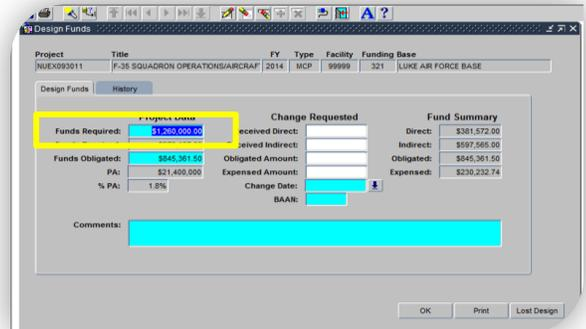

Figure 3.8a. Design Funds Tab
A. **Update “Funds Required” field.** (Figure 3.8a)